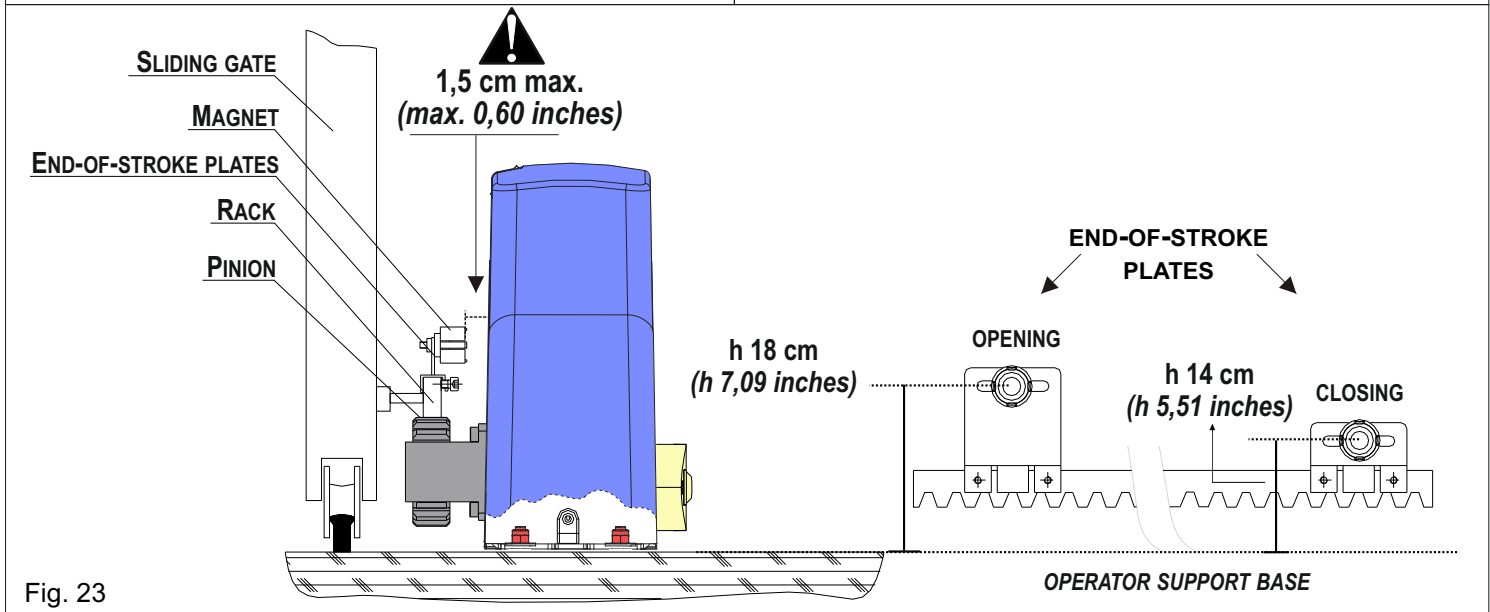

Fig. 23
- Install the end-of-stroke plates as shown in Fig. 23.